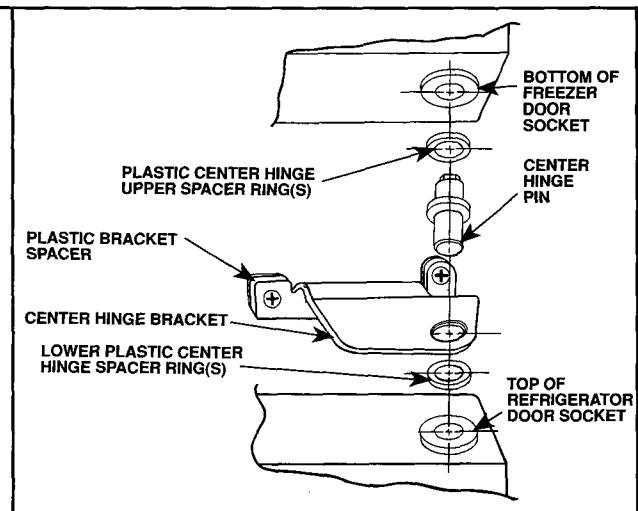

Figure 22
- d. Save plastic center hinge spacer ring(s) from center hinge pin bracket and use in Step 15. See Figure 22
- a. Install all of the plastic center spacer ring(s) in the same position as in Step 6d. See Figure 22.